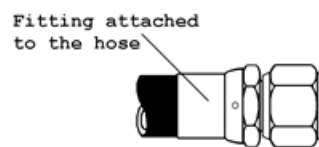

FIG 14.
- The fitting forms a part of the hose as shown in Fig 14.